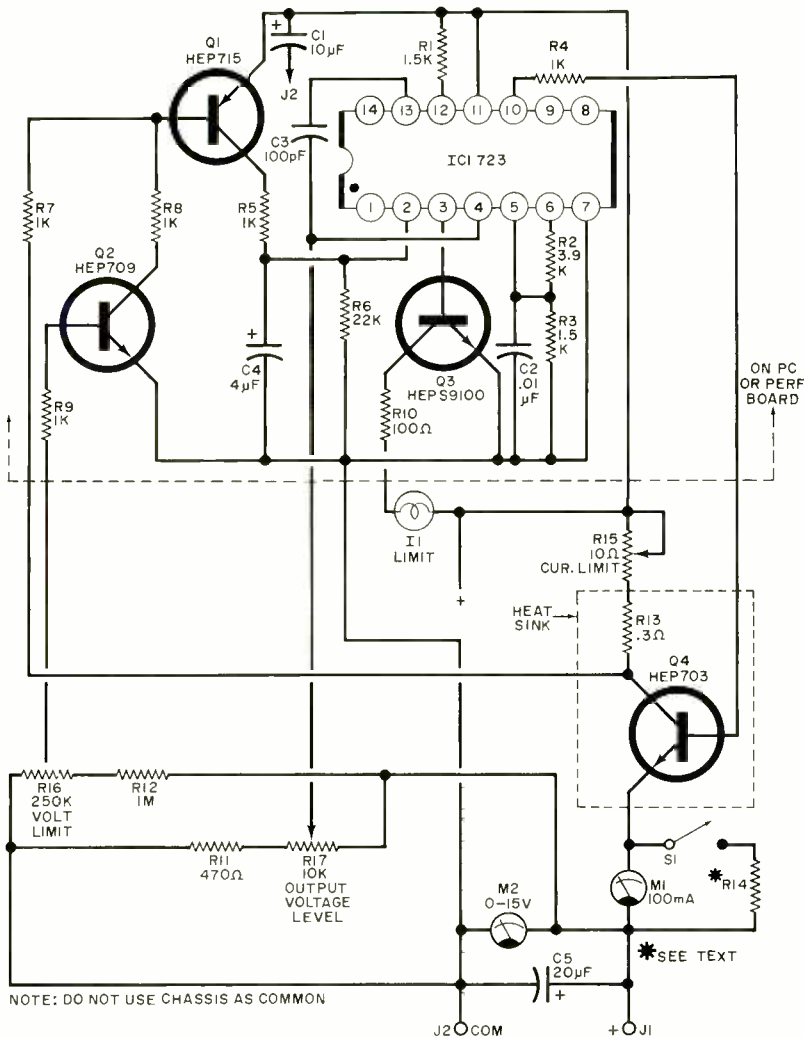

Fig. 1. Low-voltage supply (of which there are two) uses an IC regulator. Automatic voltage and current limiting circuits activate the indicator lamp I1.
**Circuit Operation.** The two low-voltage supplies are identical, using an integrated circuit as the regulating device (Fig. 1). The IC drives a power transistor,  $Q4$ , to provide the output current. The IC contains a very stable voltage-reference source and a sensitive error-detecting amplifier. Regulation is accomplished by comparing the output to the reference and any discrepancy is corrected by the error amplifier. Adjustment of the output voltage is accomplished by varying the amount of the output that is fed back to the error amplifier (pin 4) through  $R17$ . The reference voltage is on pin 6 of the IC. It is divided by  $R2$  and  $R3$  and applied to the second input to the error amplifier (pin 5).